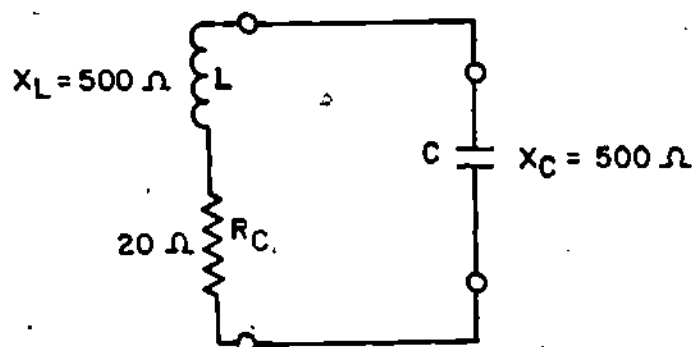

Figure 14
14. We now will talk about the Q of a tank in which the coil is a component. Figure 14 shows a simple tank.
In Figure 14, the tank is a resonant circuit containing a coil (L) and a capacitor (C). Within these two components, XL is the inductive reactance of the coil, XC is the capacitive reactance of the capacitor, and Rc is the resistance of the coil. Energy is stored in the magnetic and electric fields of the coil and capacitor. Energy is used in the form of heat caused by resistance. Now in a resonant circuit, the inductive reactance equals the capacitive reactance. Therefore XC can replace XL in the expression for Q. We can define the Q of this tank as the ratio of inductive or capacitive reactance to the coil resistance. The formula is
The tank in Figure 14 has a Q equal to $\frac{X_L}{R_c}$ or $\frac{X_C}{R_c}$, which equals $\frac{500 \text{ ohms}}{20 \text{ ohms}}$ or 25.